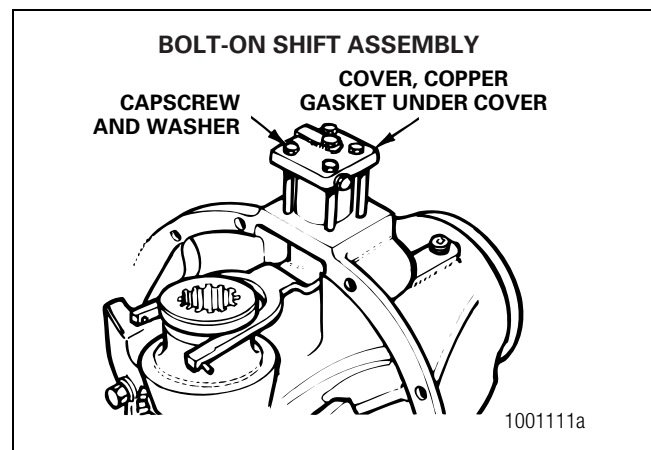

Figure 6.5
- B. Remove the four capscrews and washers that hold the cylinder cover to the carrier. Remove the cylinder cover and copper gasket. Figure 6.5.